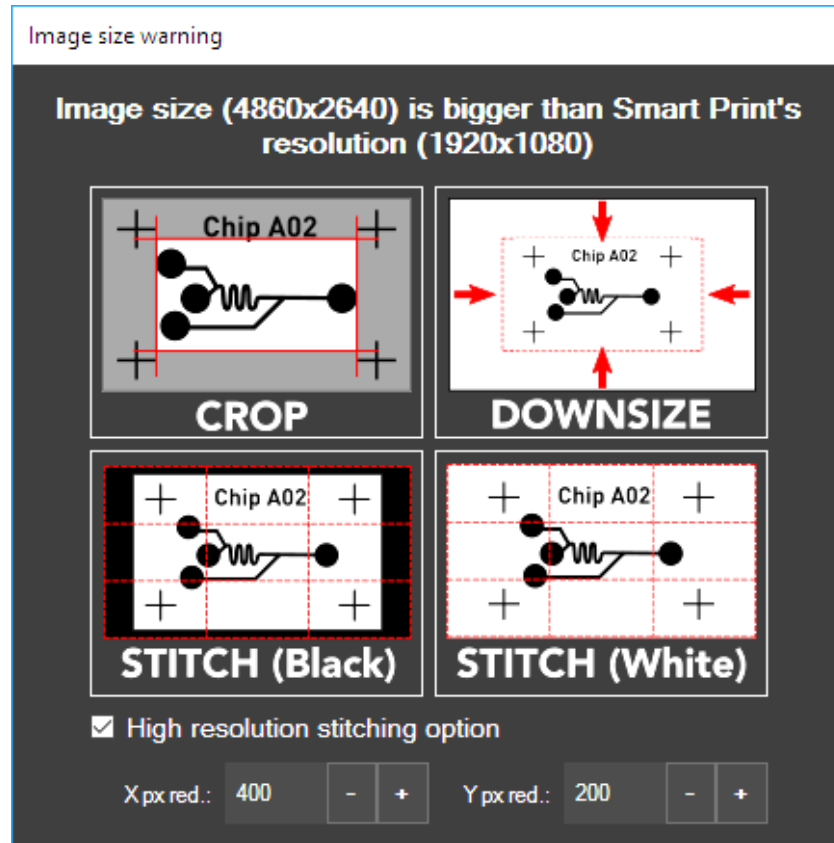

Figure 15 – « Big image » popup dialog
If at least one dimension is higher than the standard dimensions, a message will pop-up when the drawing is added to the drawing list (Figure 15). Three options are then available:
- Add a bitmap drawing on the drawing list by clicking on **add...** then select **STITCH (Black)** or **STITCH (White)** on the **Image size warning** popup dialog (Figure 15).
NOTE ON “HIGH RESOLUTION” STITCHING: If the high-resolution option is checked on the popup dialog Figure 15, the image will be sliced in smaller sub-images to reduce the impact of the optical geometrical aberrations and then increase the overall quality of the lithography. Yet, the increased number of sub-images will result in a higher number of field connection with their intrinsic error. The key parameters **X px. red.** and **Y px. red.** respectively reduce the width and the height of each sub-image. High resolution mode is highly recommended when patterns are relatively small compared to the size of the projected pixel (typically smaller than 5 times the pixel size). Use of the stage play compensation is also recommended for high-resolution stitching.